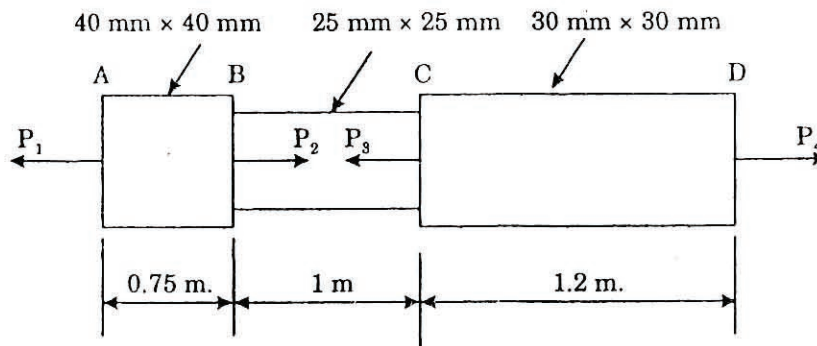

Figure 1
- III. (a) A member ABCD is subjected to point loads P_1 , P_2 , P_3 and P_4 as shown in figure 1. Calculate the force P_3 necessary for equilibrium if $P_1 = 120$ kN, $P_2 = 220$ kN and $P_4 = 160$ kN. Determine also the net change in the length of the member. Take $E = 200$ GN/m².